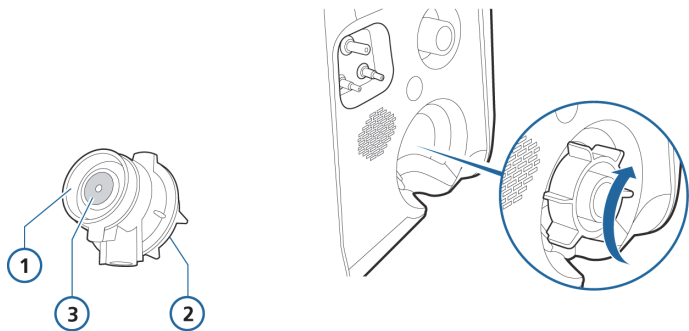

Figure 2-3. Installing the expiratory valve
1. Holding the expiratory valve housing (Figure 2-3), seat the silicone membrane onto the housing.